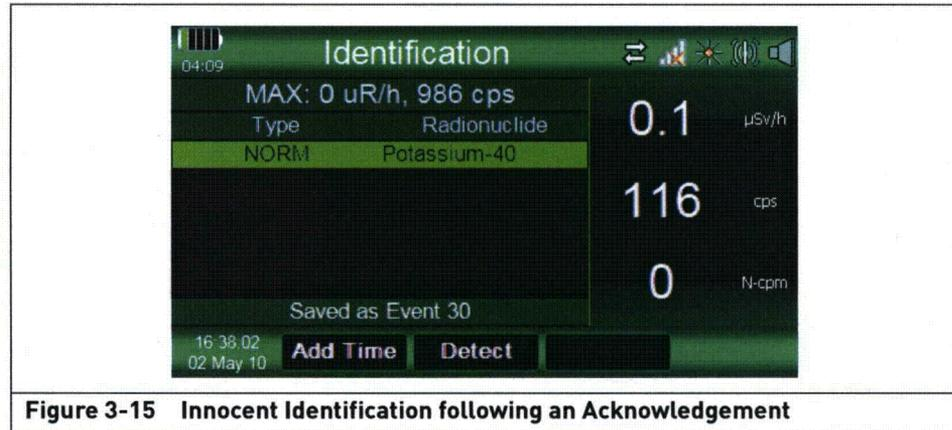
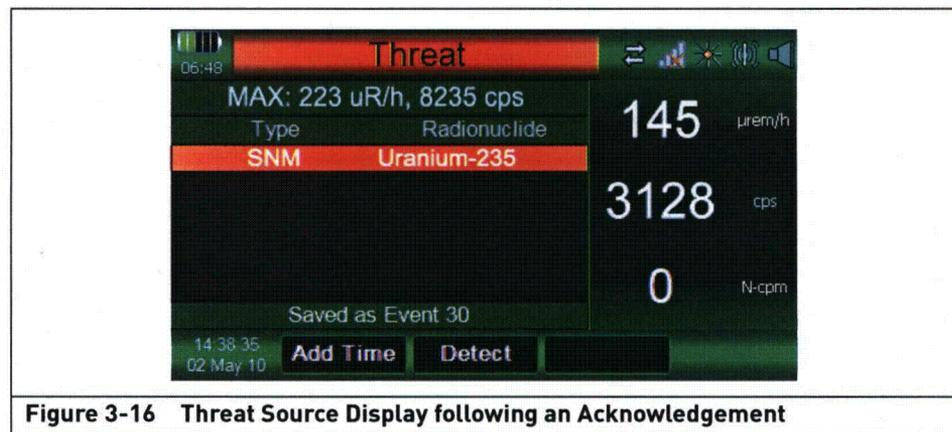

Figure 3-15 Innocent Identification following an Acknowledgement
Figure 3-16 Threat Source Display following an Acknowledgement
3. With the alarm acknowledged, the display shows the identification results, as in Figure 3-15 and Figure 3-16, along with the event number of the data file created.